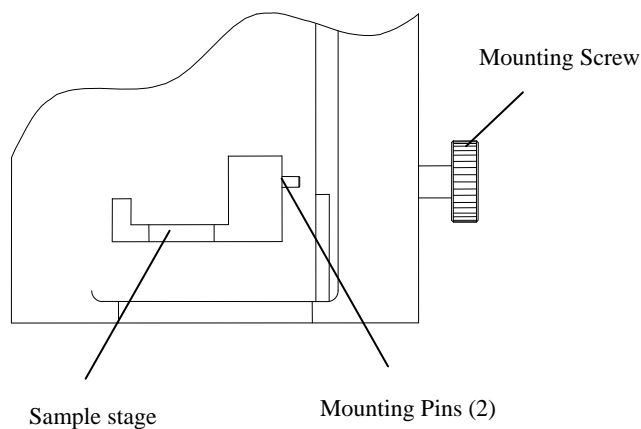

Figure 4 • Installing the HVC
- Grasp the sample stage (Figure 4) and unscrew its mounting screw.